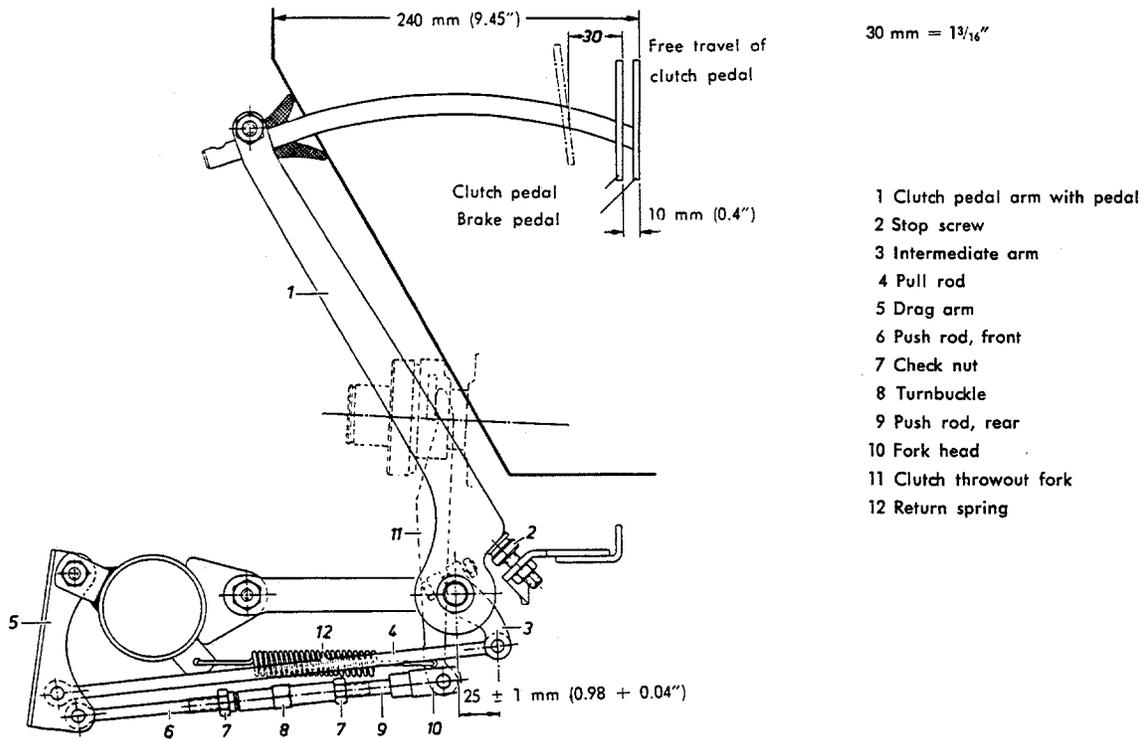

Fig. Ku 5/01
1. As can be seen from Fig. Ku 5/01, in actual practice the clutch pedal is adjusted about 10 mm (0.4") deeper than the brake pedal, the distance between brake pedal and fire wall being 240 mm (9.45"). To correct the distance between clutch pedal and brake pedal, turn stop screw (2) in or out. Do not forget to tighten the check nut afterwards! With clutch pedal in correct position the distance between eyelet in intermediate arm
(3) and center of clutch pedal shaft should be 25 ± 1 mm (0.98 ± 0.04"). Excessive deviation can be corrected by shifting the intermediate arm on the splines of the clutch pedal shaft.